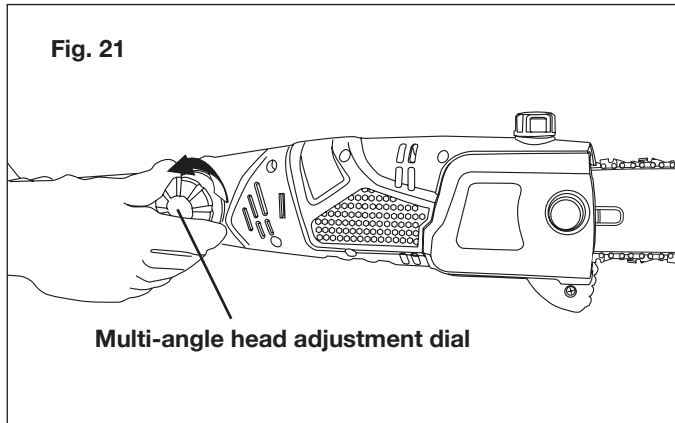

Fig. 21
2. Turn the multi-angle head adjustment dial counterclockwise to loosen the head (Fig. 21).